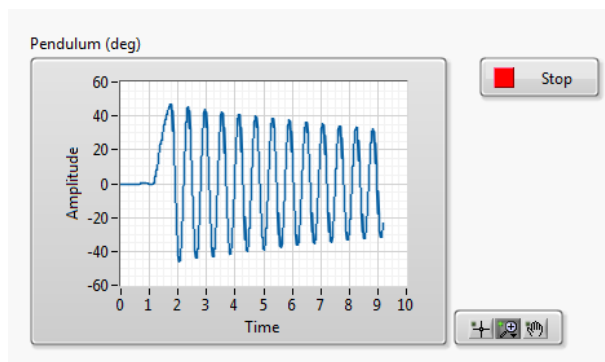

Figure 2.2: Free-oscillation response of pendulum
3. Run the VI. With the controller running, manually perturb the pendulum while holding the rotary arm in place. The scope response should be similar to Figure 2.2.